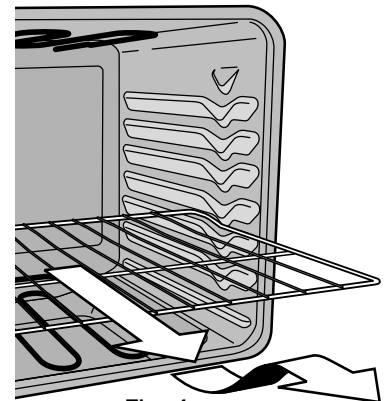

Fig. 4
**To remove** - Pull the oven rack straight out until it reaches the stop position. Tilt up front of oven rack to slide past the stop position and pull the rack out of the oven cavity (Fig. 4).